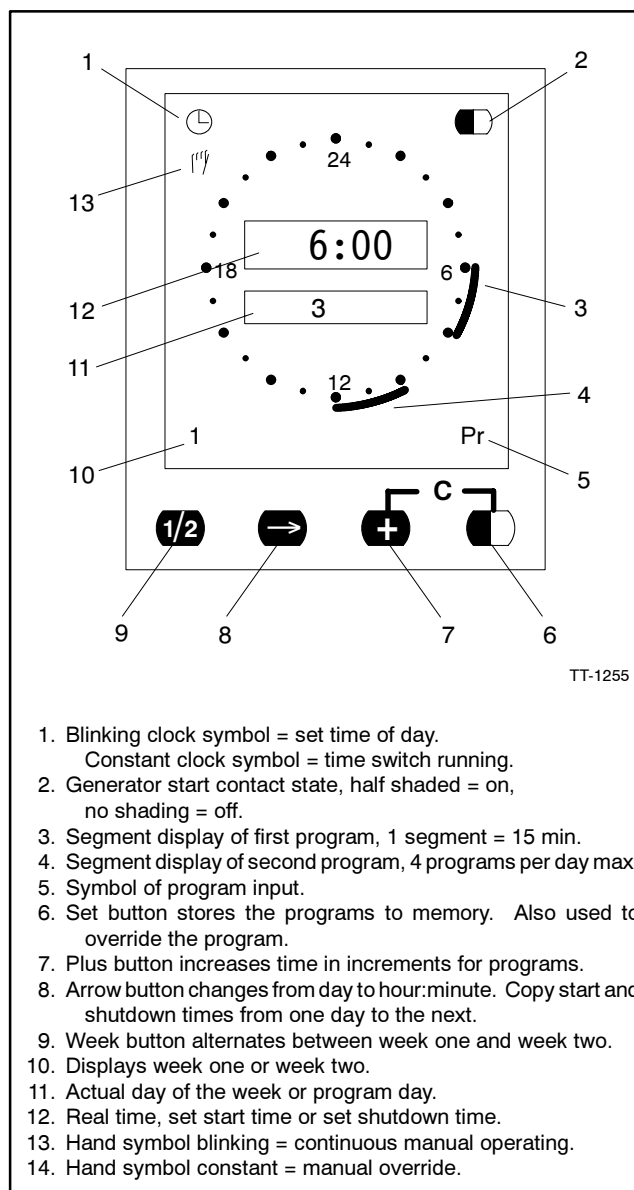

Figure 4-9 Exercise Timer
The plant exerciser has a liquid crystal display (LCD) panel that shows various exerciser information and four pushbuttons to enter information. See Figure 4-9. The following sections detail how to set the exerciser.
2. Simultaneously press and hold the ARROW (→), PLUS (+), and SET (■) buttons for 10 seconds. See Figure 4-9.